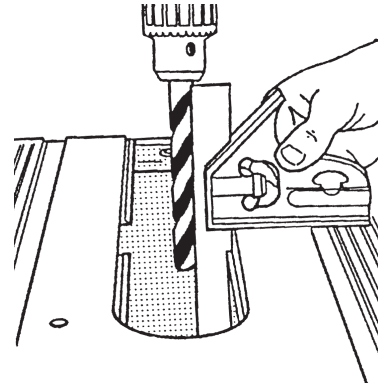

Figure 20
9. Set the Combination Square against the Drill Bit and Table, as shown in Figure 20. The Square should contact the Drill Bit along its entire length.